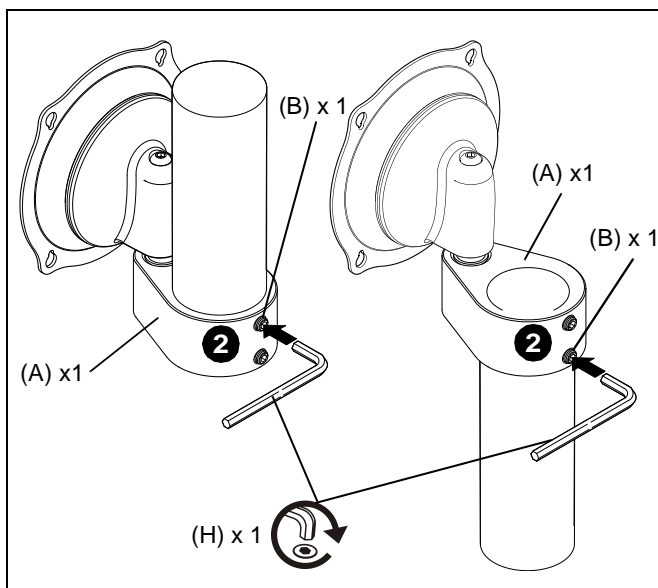

Figure 2
3. When mount (A) is properly positioned secure mount (A) to 1 1/2" NPT pipe by installing and tightening 5/16-18 x 3/8" set screw using 3/16" hex wrench (H). (See Figure 2)